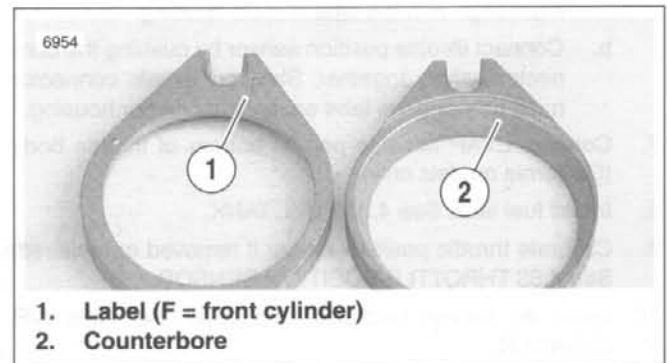

Figure 4-104. Intake Flanges (1999 Shown)
1. See Figure 4-104. Install front and rear intake flanges onto manifold with the counterbore facing out. Each intake flange is labeled and the pieces are not interchangeable.